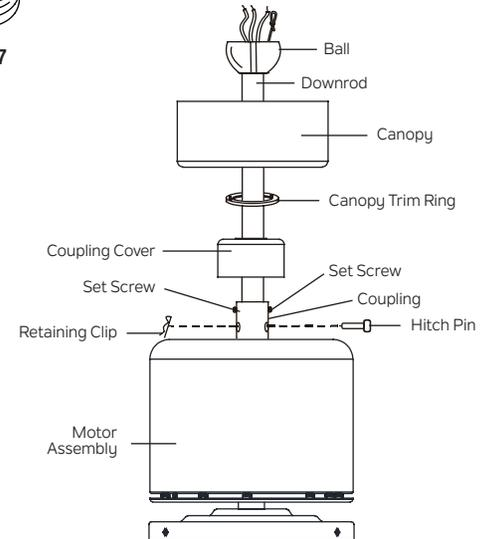

Fig. 8
Step 6. Loosen the two set screws (do not remove) in the coupling on top of the motor. (Fig. 8)
Step 7. Carefully feed the wires from the coupling on top of the motor assembly up through the downrod. (Fig. 8)
Step 8. Thread the downrod into the coupling on top of the motor assembly until the hitch pin holes in the downrod and the hitch pin holes in the coupling are aligned. Carefully insert the hitch pin through the holes in the coupling and the downrod. (Fig. 8)
Insert the retaining clip through the hole near the end of the hitch pin until it snaps into its locked position. (Fig. 8)
Step 9. Tighten the two set screws in the coupling on top of the motor assembly firmly. (Fig. 8)
Step 10. Carefully slip the coupling cover, canopy trim ring (smooth finished side facing motor body), and canopy onto the downrod. (Fig. 8)